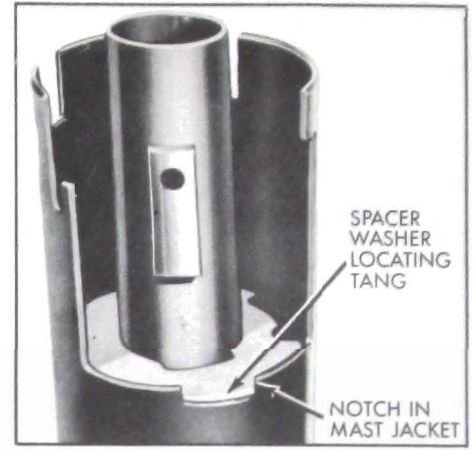

Figure 8-88—Shift Control Shaft Spacer Washer Installation
10. Slide the spacer washer over upper end of control shaft and insert it in mast jacket as shown. See Figure 8-88.